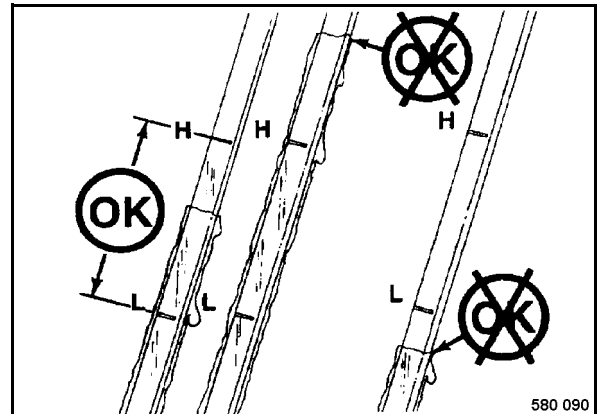

Fig. 76
- Check the oil level again (Fig. 76), if necessary fill up to the Max.-mark.